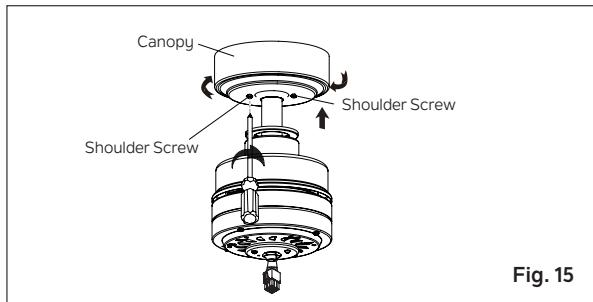

Fig. 15
Step 2. Raise the canopy to the mounting bracket. Place the key hole slots in the canopy over the shoulder screws in the mounting bracket. Rotate the canopy (clockwise) until the canopy locks in place against the shoulder screws (at the narrow ends of the key hole slots). Tighten the two shoulder screws to secure the canopy in place. **(Fig. 15)**